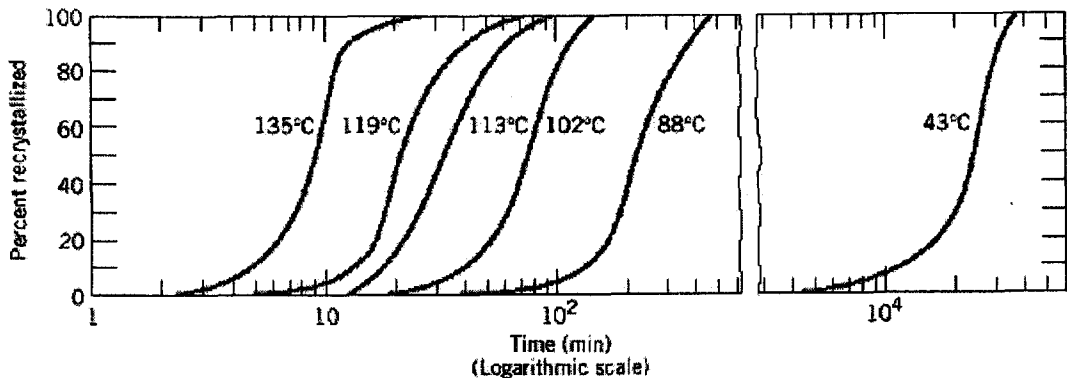

Figure 2. Percent recrystallization as a function of time and at constant temperature for a metal
3. [a] From the curves shown in Figure 2 and using Equation [$r = 1/t_{0.5}$], determine the rate of recrystallization for a metal at the several temperatures.